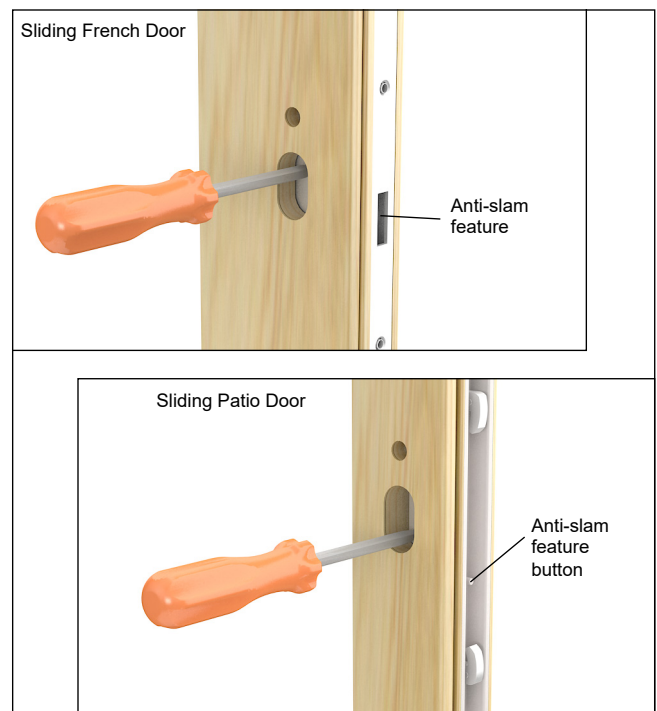

Figure 1
1. With the active panel open, depress and hold the anti-slam feature while placing the locking hardware into a locked state by using a flat head screw driver. See figure 1.